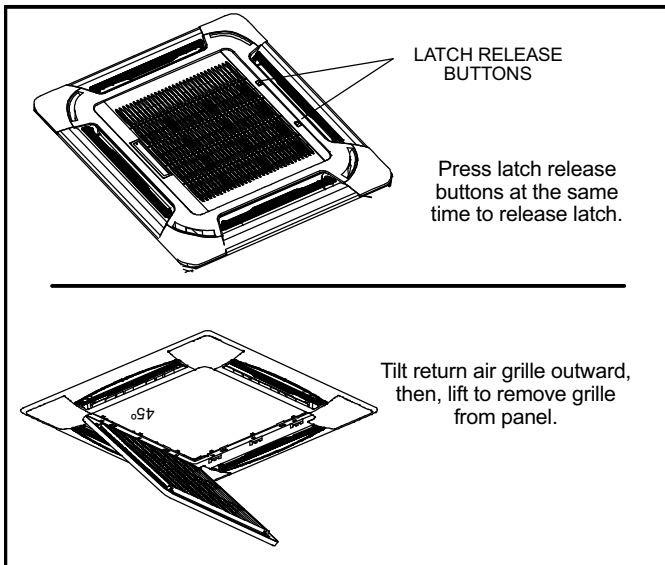

Figure 14. Remove Return Air Grille
- 2 - Press the two grille latch release buttons at the same time to release the grille. See figure 14. Tilt the return air grille outward at a 45° angle and lift the grille away from the panel. Carefully place the return air grille off to the side.